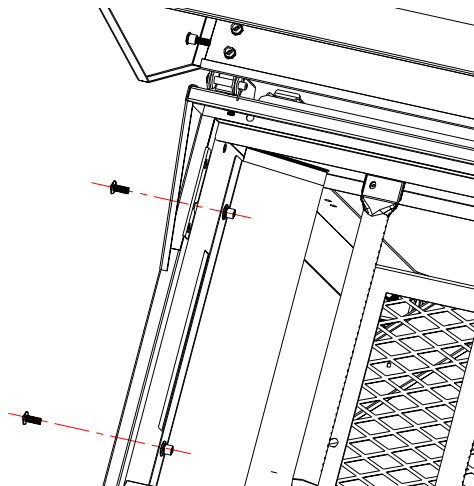

Fig. 9
*Locate:* Grease Pan Connector and (2) M6x15 bolts.
Place the grease pan connector inside the left end of the cabinet just below the horizontal slot and insert (2) M6x15 bolts from outside the cabinet as shown in Figure 9.